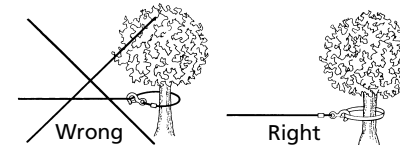

Figure 4
9. **NEVER HOOK THE WIRE ROPE BACK ONTO ITSELF** because you could damage the wire rope. Use a nylon sling (Figure 4).